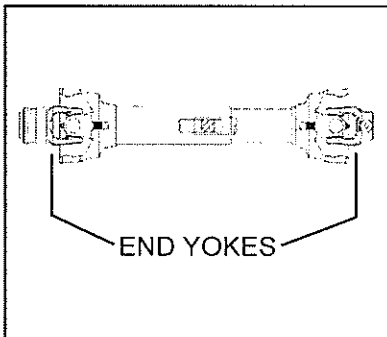

FIG. 6 - END YOKES PROPERLY ALIGNED
STEP 11: Slide the two driveline halves apart, and pack 1/4 lb. of good grade gun grease into the open end of the driveline. Grease the grease zerk in the tractor end yoke and in the two center crosses. Slide the driveline halves back together with the end yokes in proper alignment (see Fig. 6). Failure to properly align end yokes may result in excessive vibration. Always make sure guards are in place and rotate freely.